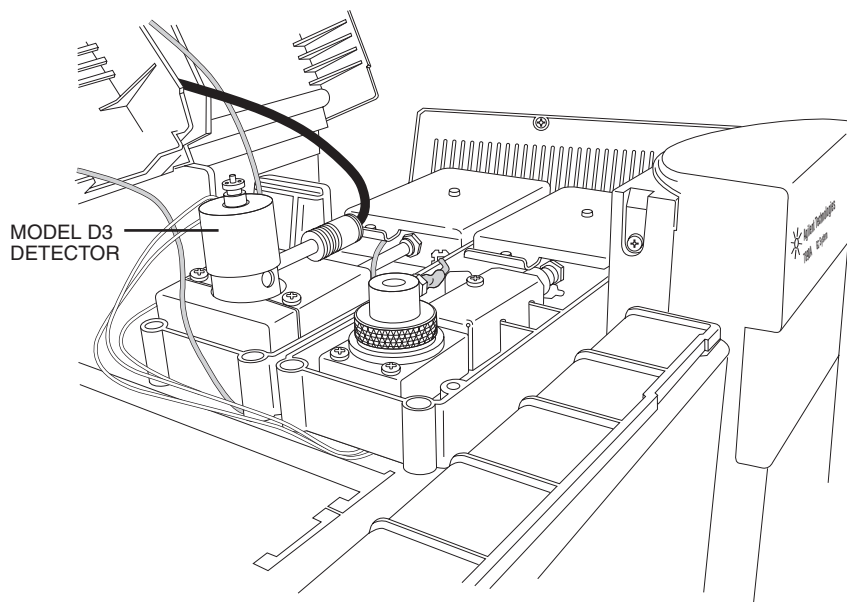
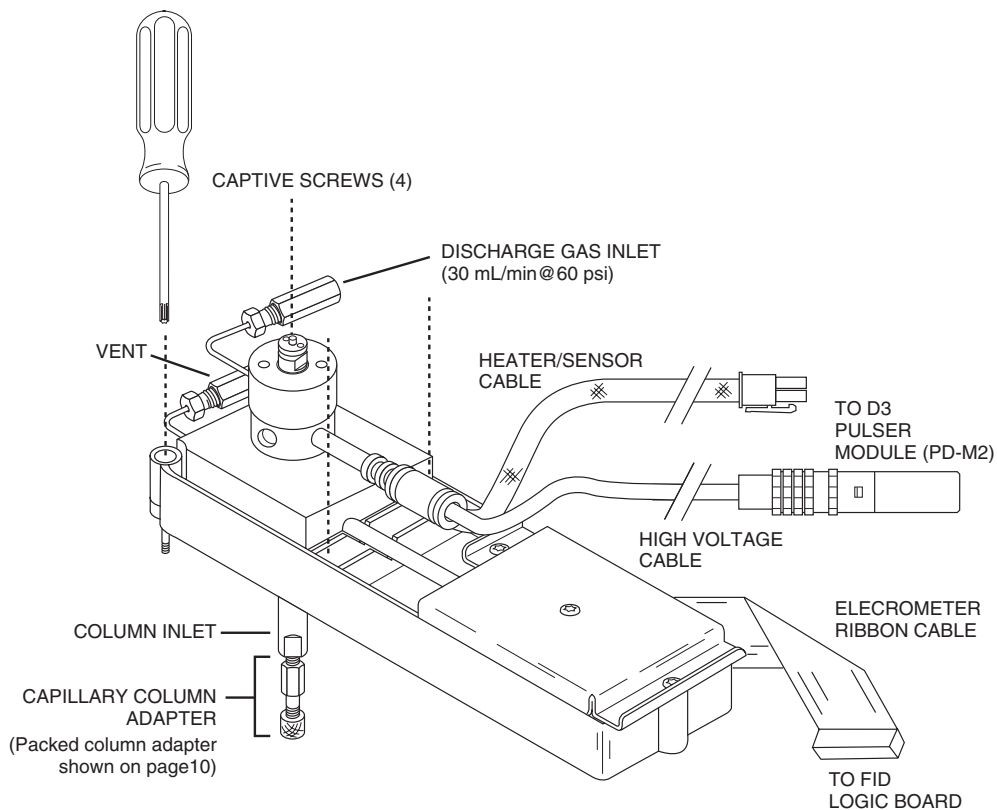

Figure 2: A D3 detector in the “Back” position on a 7890A
Figure 3: Mounting and connecting the detector
1. Place the D3 on the top of the GC in either the front or back detector position (**Figure 2**), and tighten the four captive Torx T-20 screws in the detector pallet. (**Figure 3**)